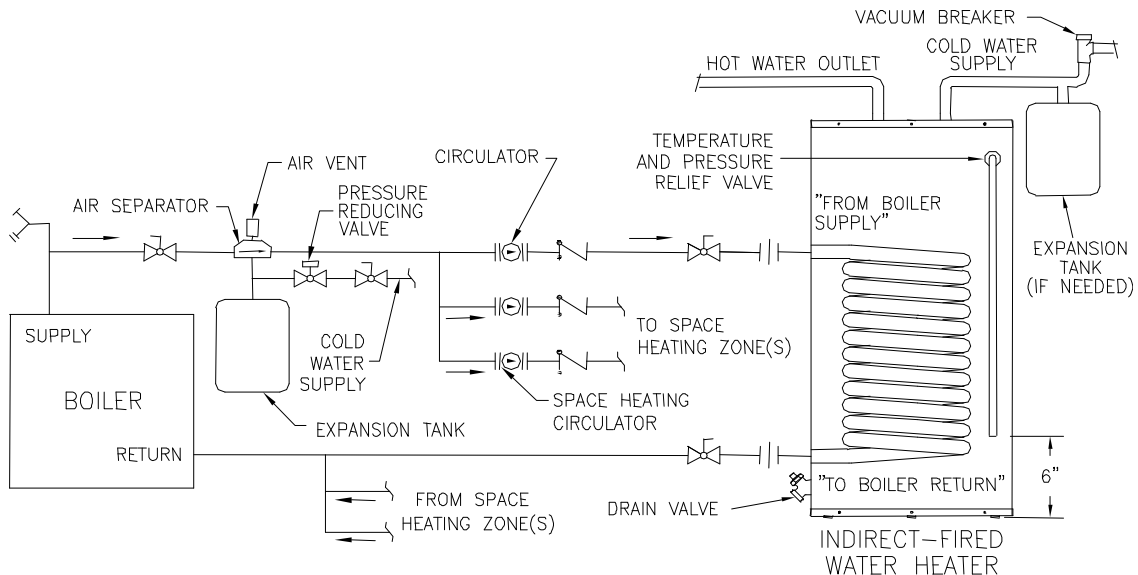

Figure 3 - Water Boiler Piping with Circulators
2. For a space heating system that utilizes CIRCULATORS, refer to Figure 3. The indirect-fired water heater connection labeled “FROM BOILER SUPPLY” should be piped to the boiler supply piping. Mount the circulator making sure the flow arrow points toward the water heater. The use of shut-off valves and unions are recommended for future service convenience. The use of an air separator and vent is recommended to eliminate air in the system. Pipe and fittings between the boiler and indirect-fired water heater must be $\frac{3}{4}$ ” diameter or larger.